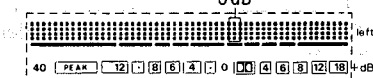

Fig. 21
9. At this time, check that 0dB indicator is dimmed (intermediate brightness between full brightness and light-out (See fig. 21)).